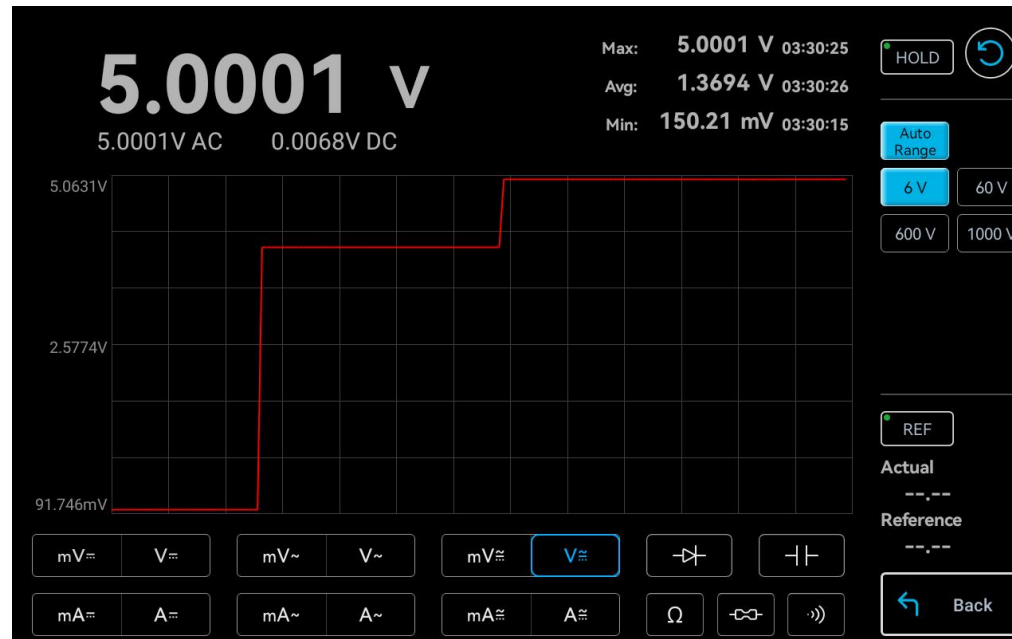

Figure 9-5 AC+DC Voltage Measurement (V)
Test Steps: Select to enable the AC+DC voltage measurement (V) in the measurement item selection area , as shown in Figure 9-5.